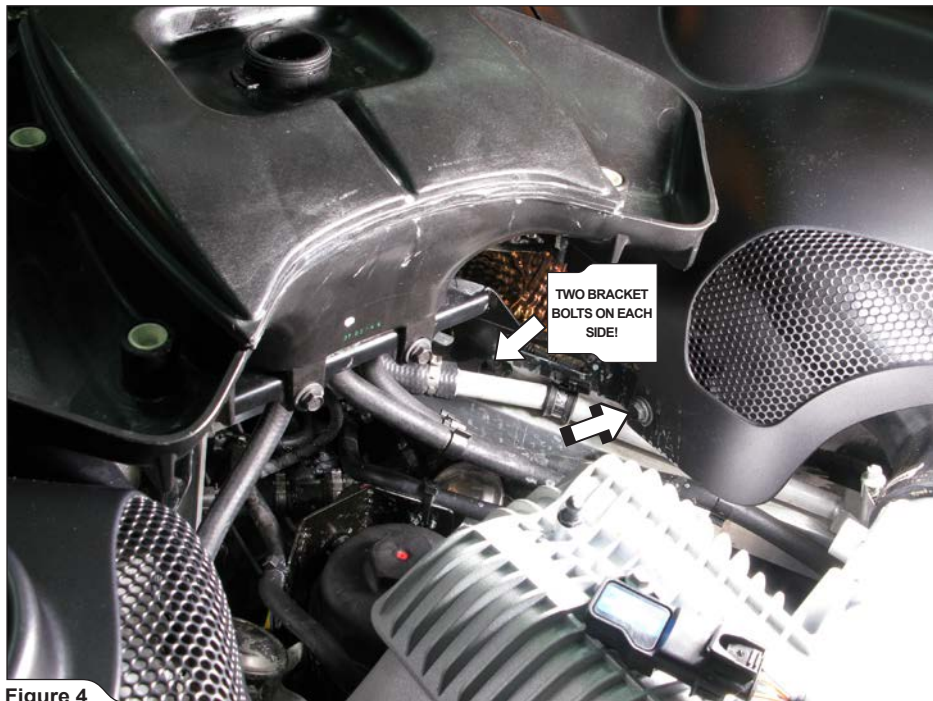

Figure 4
4. Unscrew the marked engine compartment cowlings bolts on both sides and four expansion tank 's bracket bolts (Figure 4).